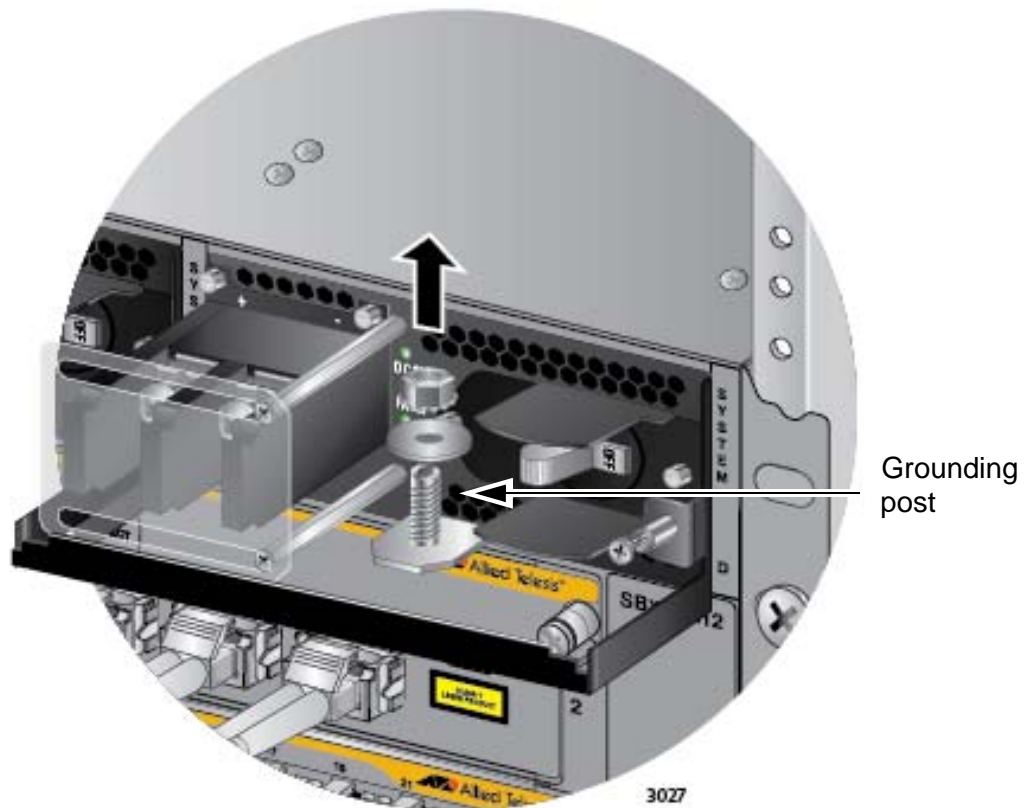

Figure 114. Removing the Nut and Washer from the Grounding Post
3. Use an 8 mm wrench to remove the grounding post nut and washer, shown in Figure 114, from the power supply.
2. Use an 8 mm wrench to remove the grounding post nut and washer, shown in Figure 114 on page 183, from the grounding post on the power supply.